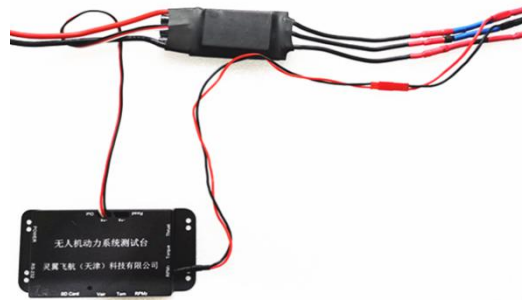

Fig. 2.2.3 Connection of signal cables
(2) . Connect JST Plug. ESC signal cable connects to “OUT” port on the control module, as shown in Fig. 2.2.3: